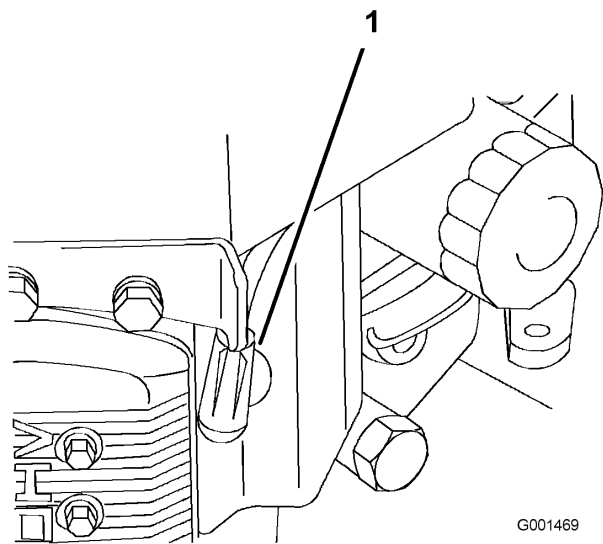

Figure 27
3. Disconnect the wires from the spark plugs (Figure 27).